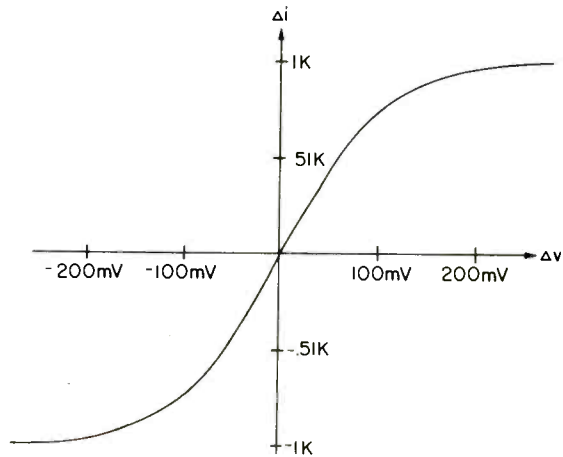

Fig. 28 — Transfer characteristics of a transconductance amplifier.
where  $V_T = KT/q$  or approximately 26 mV at 300° K and  $I_k$  = the bias current of the stage. The graph of equation (21) is shown in Fig. 28.
Equation 21 and Fig. 28 differ from equation 13 and Fig. 6b in our previous example of Part I, because the 741 input stage has a pair of transistors on each side. Equation (21) in its present form will not allow closed-form expressions for distortion. It must be expressed as a truncated power series with variable  $\Delta V$  to complete the calculations, and this is shown in equation (22).